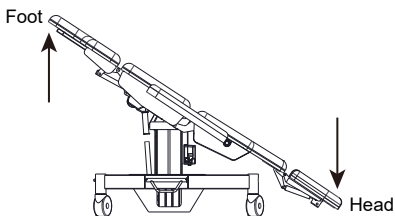

Figure 8
- Press button Line 4 on the handset to adjust the tilt angle of the middle plate,make it uptilt and downtilt (Figure 8). When the required tilt angle is reached, release the button, and the tilt angle will be locked automatically.